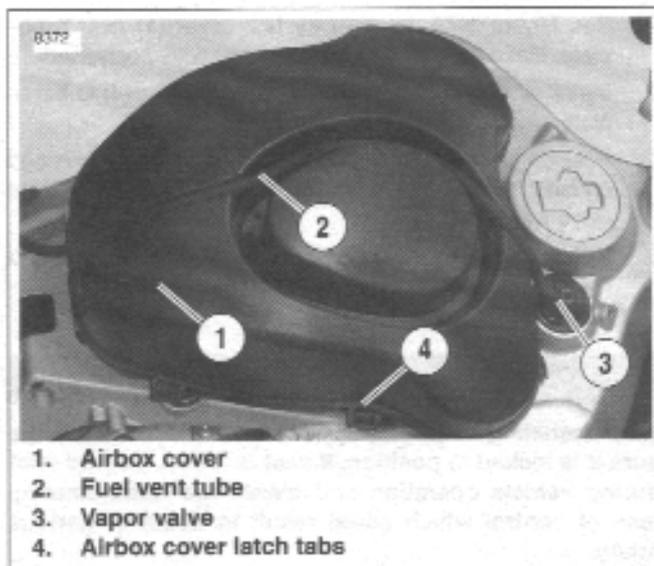

Figure 1-46. Air Box, Fuel Vent Tube and Fuel Vapor Valve
3. See Figure 1-46. Remove fuel vent tube (2) from vapor valve (3) and groove on top of air box cover (1).
4. See Figure 1-46. Unlatch six latching tabs (4) and remove air box cover from baseplate.
2. See Figure 1-46. Position air box cover (1) over baseplate. Make sure air filter remains correctly positioned.
3. Install air box cover by latching six latch tabs (4) to baseplate.
4. Position fuel vent tube (2) in groove on top of air box and connect to fuel vent valve (3). Secure vent tube to vent valve with **new** cable tie.